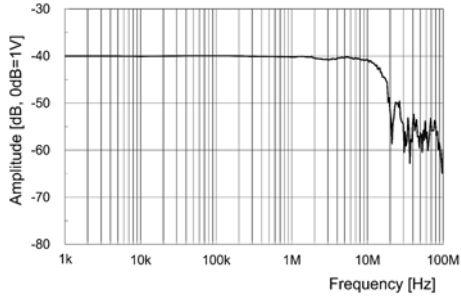
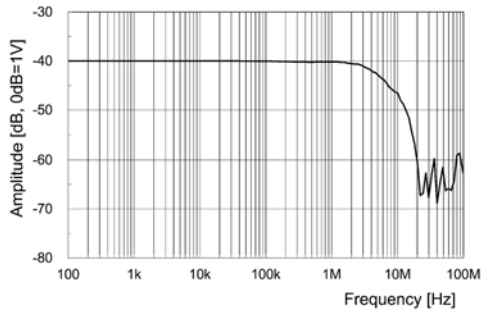

Fig.1 Frequency characteristics (Typical) (3274)
Fig.2 Frequency characteristics (Typical) (3275)
| Bandwidth                      | Model 3274 : DC to 10 MHz (-3 dB)(Typical characteristics shown in Fig.1)Model 3275 : DC to 2 MHz (-3 dB)(Typical characteristics shown in Fig.2)  |
- (1) Check that the system is safe, and that the preparations described in the preceding section have been carried out.
- (2) Pull the sensor slider, so that the clamp opens.
- (3) Align the sensor so that the current direction indication corresponds to the direction of current flow through the conductor to be measured, and clamp so that the conductor is in the center of the sensor aperture.
- (4) Press the slider on the sensor head until the "UNLOCK" indication disappears, and hold it until LOCK appears, and check that the opening lever is firmly locked and the clamp securely closed.
- (5) It is now possible to monitor the current waveform. The output rate of the 3274 or 3275 is 0.01 V/A. The current sensitivity can be derived from the voltage sensitivity of the waveform measurement instrument. For example, if the voltage sensitivity is 10 mV/division, the current sensitivity is 1 A/division.
- The current consumption of clamp-on probes depends on the current to be measured. Confirm that the total current consumption of the clamp-on probes does not exceed the rated output current of the 3272. See Figure 1.